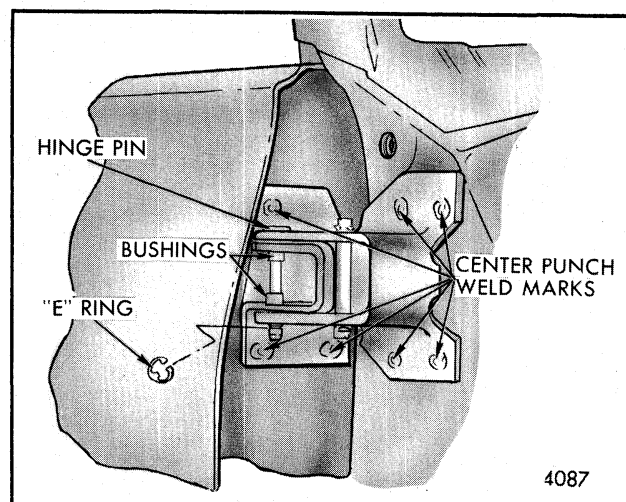

Fig. 5-70-Front Door Hinge "E" Ring Removal - "X" Styles
All "H and X" front door hinges are constructed of steel and are welded to the door and body hinge pillars. Because of the positive attachment of the hinge assembly, all adjustment provisions have been eliminated. However, a removable hinge pin has been provided for removal of the door assembly from the body. Replacement hinges are serviced as an assembly. DOOR SIDE hinges are pierced to permit bolt-on installation into tapped anchor plates. BODY SIDE of service replacement hinges DO NOT have bolt-on provisions and must be arc-welded to the body hinge pillar. Tapped anchor plates must be used instead of nuts and washers to insure structural integrity when replacing a hinge assembly. Anchor plates are not furnished with the hinge assembly and must be ordered separately. In addition, door side and body side hinge straps, hinge pins, bushings and "E" rings are available as separate service parts for "X" styles only. Service replacement hinge assemblies will include a removable pin and "E" ring retainer so that the hinges can be separated for individual door side and/or body side strap replacement (refer to Fig. 5-70). Both "H and X" doors have an integral two stage hold-open feature that is found on the "X" lower and "H" upper hinges.
1. Remove "E" ring (snap retainer) from lower end of both upper and lower hinge pins (Fig. 5-70).
4. Center punch visible weld marks on hinge base as shown in Figure 5-70 and drill a 1/8" pilot hole completely through welds at center punch marks.